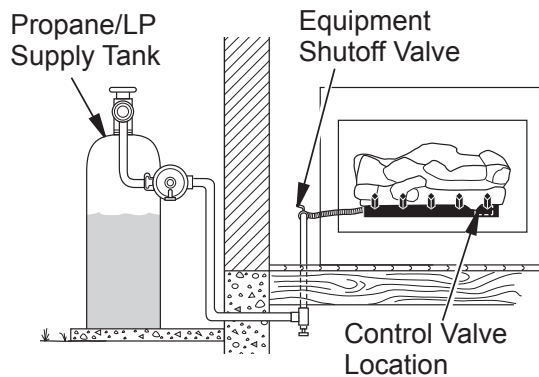

Figure 15 - Checking Gas Joints (Propane/LP Only)
3. Check all joints from gas meter to equipment shutoff valve for natural gas or propane/LP supply to equipment shutoff valve for propane/LP (see *Figure 15 or 16*). Apply noncorrosive leak detection fluid to all joints. Bubbles forming show a leak.
4. Check all joints from equipment shutoff valve to gas valve (see **Figure 15 Or 16, Page 15**). Apply noncorrosive leak detection fluid to all joints. Bubbles forming show a leak.